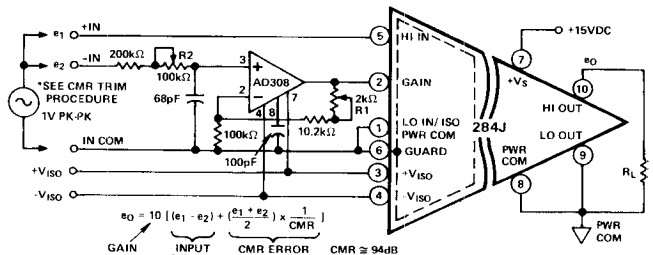

Figure 14. Application of 284J as Instrumentation Amplifier
In applications where the isolated power is applied to transducers such as bridges which generate differential input signals with common mode voltages measured with respect to the isolated power common, model 284J can be connected as shown in Figure 14. To achieve high CMR with respect to the ISO PWR COM, the following trim procedure is recommended.
- 1) Connect a 1V pk-pk oscillator between the +IN/-IN and IN COM terminals as shown in Figure 14.